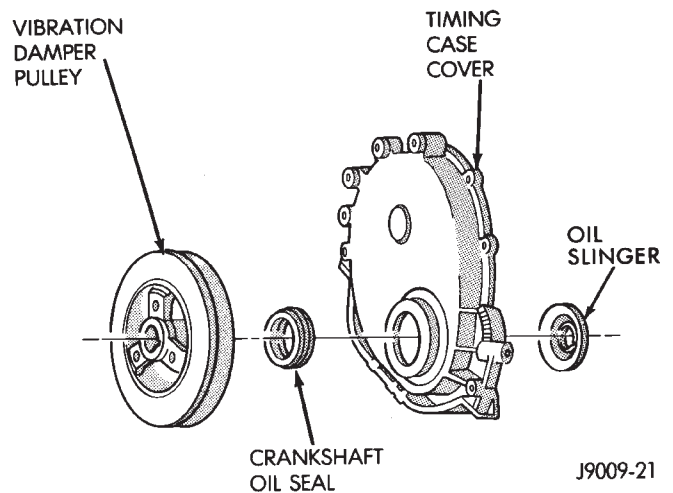

Fig. 4 Timing Case Cover Components
(1) Disconnect negative cable from battery.
(2) Remove the vibration damper (Fig. 4).
(3) Remove the fan and hub assembly and remove the fan shroud.
(4) Remove the accessory drive brackets that are attached to the timing case cover.
(5) Remove the A/C compressor (if equipped) and generator bracket assembly from the engine cylinder head and move to one side.
(6) Remove the oil pan-to-timing case cover bolts and timing case cover-to-cylinder block bolts.
(7) Remove the timing case cover and gasket from the engine.
(8) Pry the crankshaft oil seal from the front of the timing case cover (Fig. 4).